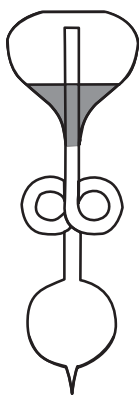

Figure 1.
2. Turn the hand boiler over as in Figure 1. The liquid does not drain into the other bulb due to the tube extending so far into the bottom (now upper) bulb.